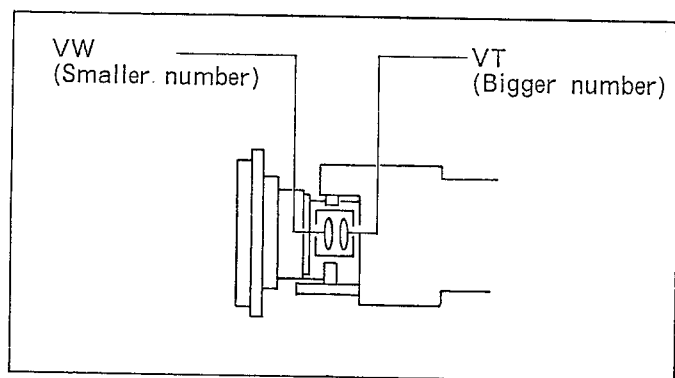

Fig. C8
- (2) Take memo the above result of calculation.
- (3) Set the zoom to fully TELE position.
- (4) Connect the probe of volt meter to B303-PIN5: V.REF(+) (see Fig.C8) and measure the voltage.
- (5) Using E.V.R, change the data of D/A address to "25" with command "01" so that voltage at B303-PIN5: V.REF(+) become same as a result of calculation as follows:
- * Measure the voltage at B303-PIN5: V.REF(+) (see Fig.C8).
- (6) As the same way, set the zoom to fully WIDE position.
- (7) Measure the voltage at B303-PIN18: V.REF(-).
- (8) Change the D/A address to "26" (with command "01") and increase or decrease the data by pushing "INC" or "DEC" so that voltage at B303-PIN18: V.REF(-) become same as a result of calculation. Then, push "SHIFT 1" and "0" keys together to write the data.: